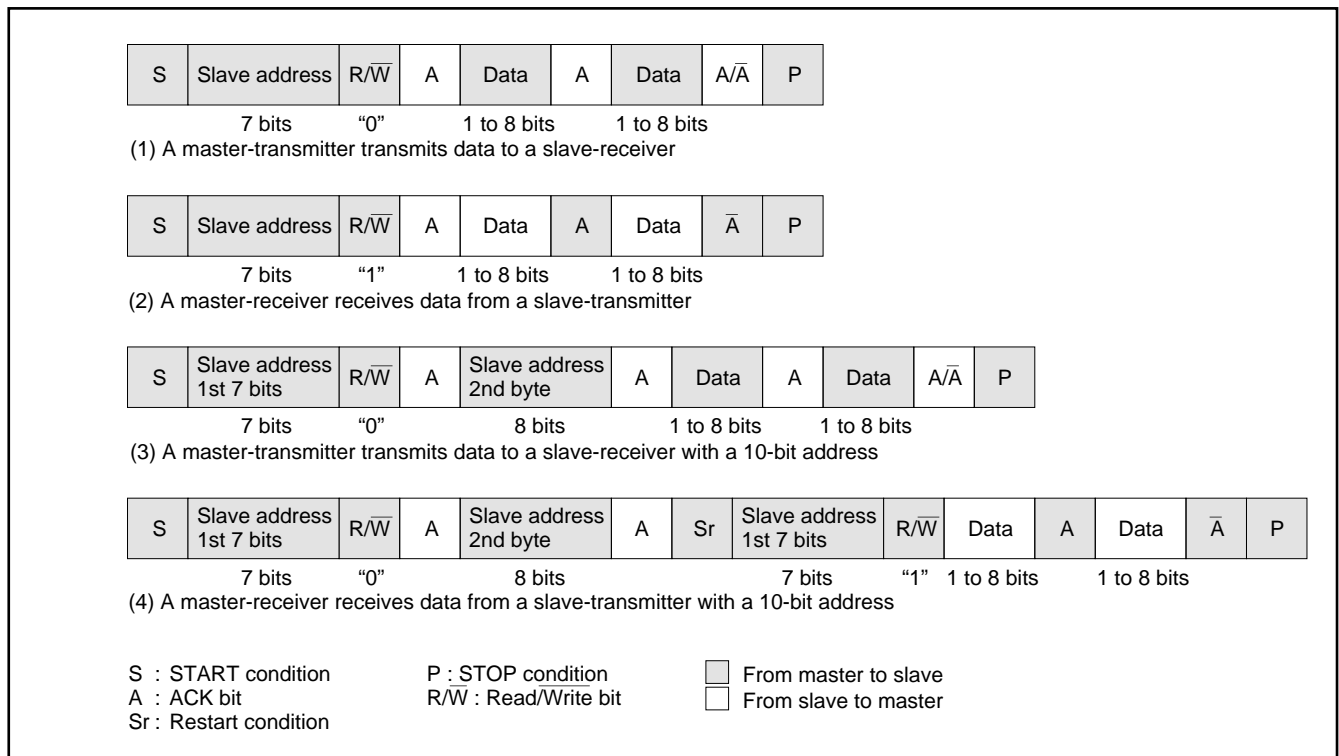

Fig. 24. Address data communication format
① 7-bit addressing format
To meet the 7-bit addressing format, set the 10BIT SAD bit of the I²C control register (address 00DA16) to "0." The first 7-bit address data transmitted from the master is compared with the high-order 7-bit slave address stored in the I²C address register (address 00D816). At the time of this comparison, address comparison of the RBW bit of the I²C address register (address 00D816) is not made. For the data transmission format when the 7-bit addressing format is selected, refer to Figure 24, (1) and (2).
② 10-bit addressing format
When the first-byte address data matches the slave address, the AAS bit of the I²C status register (address 00D9₁₆) is set to "1." After the second-byte address data is stored into the I²C data shift register (address 00D7₁₆), make an address comparison between the second-byte data and the slave address by software. When the address data of the 2nd byte matches the slave address, set the RBW bit of the I²C address register (address 00D8₁₆) to "1" by software. This processing can match the 7-bit slave address and R/W data, which are received after a RESTART condition is detected, with the value of the I²C address register (address 00D8₁₆). For the data transmission format when the 10-bit addressing format is selected, refer to Figure 24, (3) and (4).
- ⑥ •When all transmitted addresses are "0" (general call)